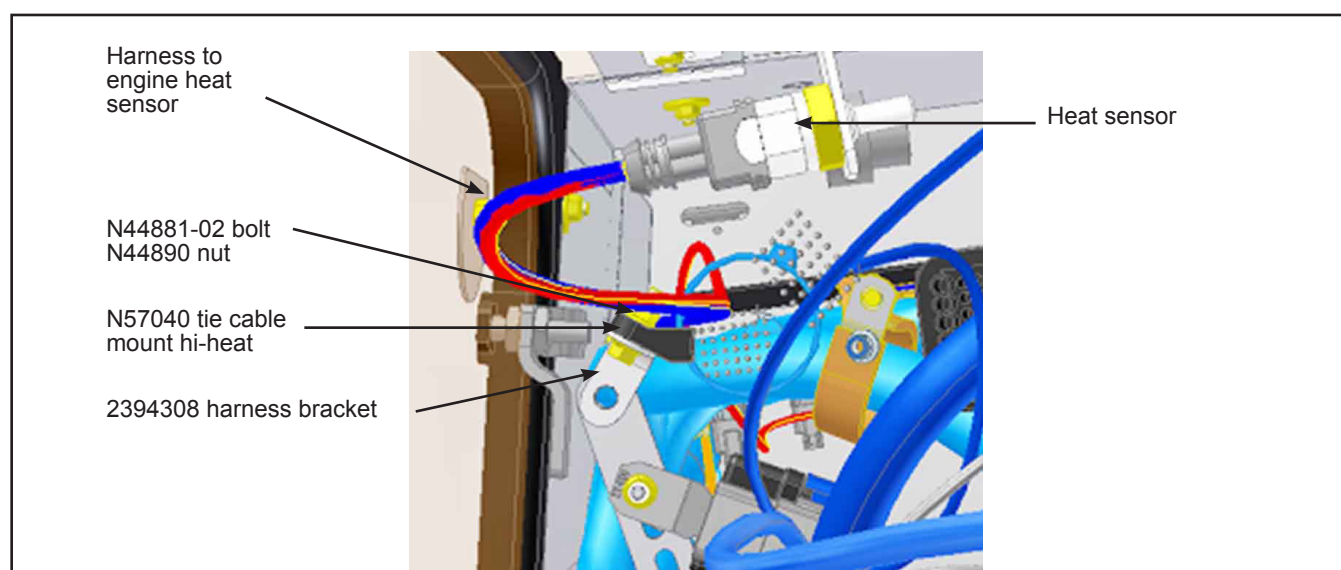

Figure 18 - Connecting to Heat Sensor
- 1.19. Install the N57040 tie cable mount onto 2394308 harness bracket with N44881-02 bolt and N44890 nut. See Figure 18.